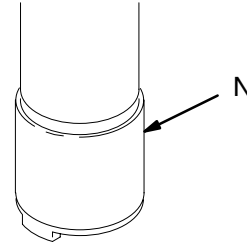

Fig. 4
Cycle the pump slowly for at least 5 minutes, then stop and disconnect the air hose. Push up on the ball of the intake valve (N) to drain the lower part of the pump. See Fig. 4. Turn the pump over to drain the upper part of the pump.